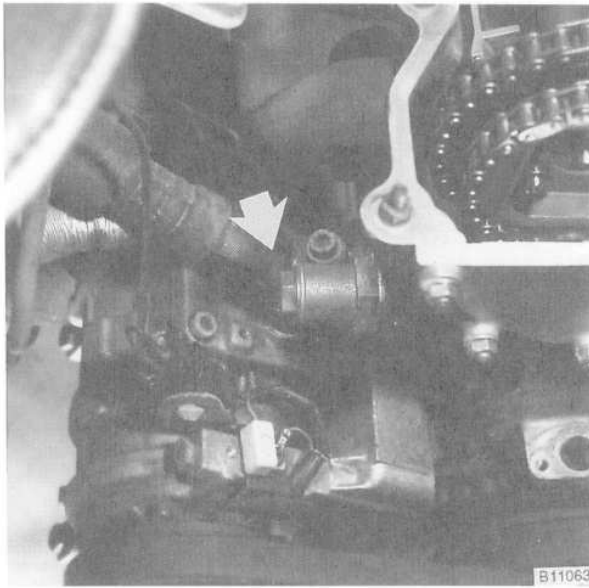

Fig. 23. Primary timing chain tensioner (arrow).
33. Remove the primary timing chain tensioner from side of cylinder head. See Fig. 23.